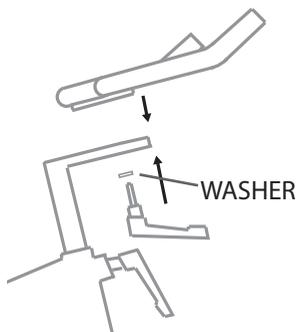

Figure 1
- 2: Screw an adjustment handle (size 32mm) clockwise into the socket from underneath the post, see figure 1. Fix the handlebar completely to the front post by tightening the adjustment screw on the side of the handlebar.